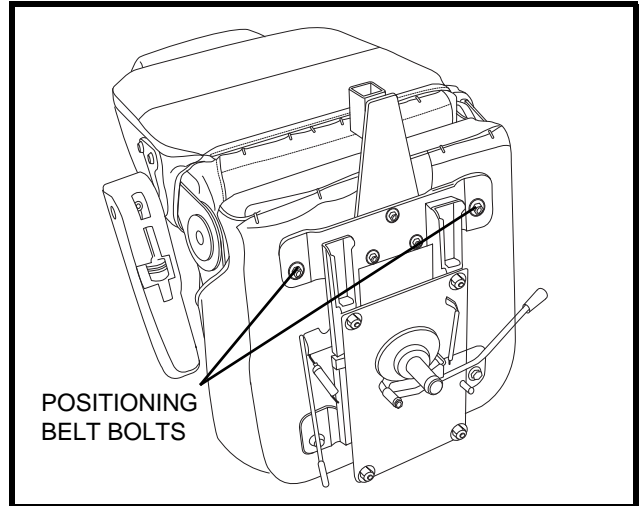

Figure 22. Positioning Belt Bolts (CRS Junior seat)
2. Place the seat upside down so that you can see the bottom of the seat base. See **figure 22 or 22A**.